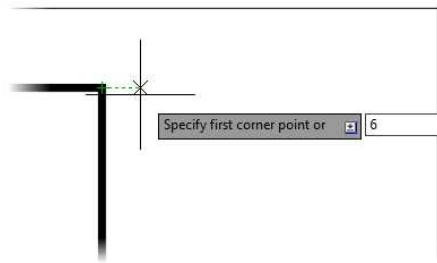

FIGURE 8.44: Using Object Snap Tracking to acquire the rectangle starting point
8. Start the Rectangle (RECTANG) command, and use Object Snap Tracking to begin drawing a rectangle 6" (150 mm) to the right of the inner title-block frame, as shown in Figure 8.44.